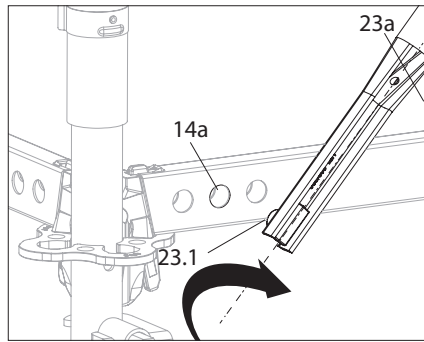

Fig. A4.07a
1. Bring the Ledger Brace UBL-2 (23) parallel to the basic scaffold and turn it so that the mounting finger (23.1) points upwards. (Fig. A4.07a)